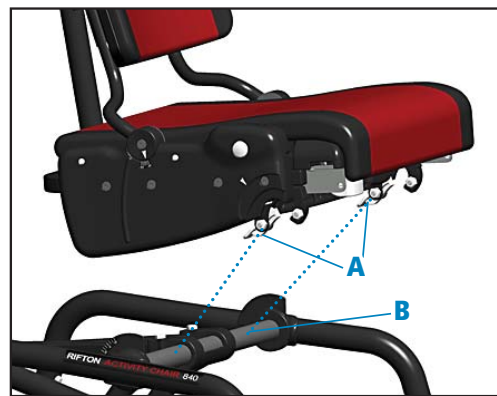

Figure 16b
With footboard angle adjuster disconnected, casters locked and arm supports removed, find white levers (A) located directly beneath the chair seat (see Figure 16b). Place one hand under front edge of seat and lift upwards while with other hand pulling one of the two levers towards front of chair. Still lifting front edge of seat, pull other lever towards front of chair to completely disengage bottom of seat from crossbar (B) beneath it.